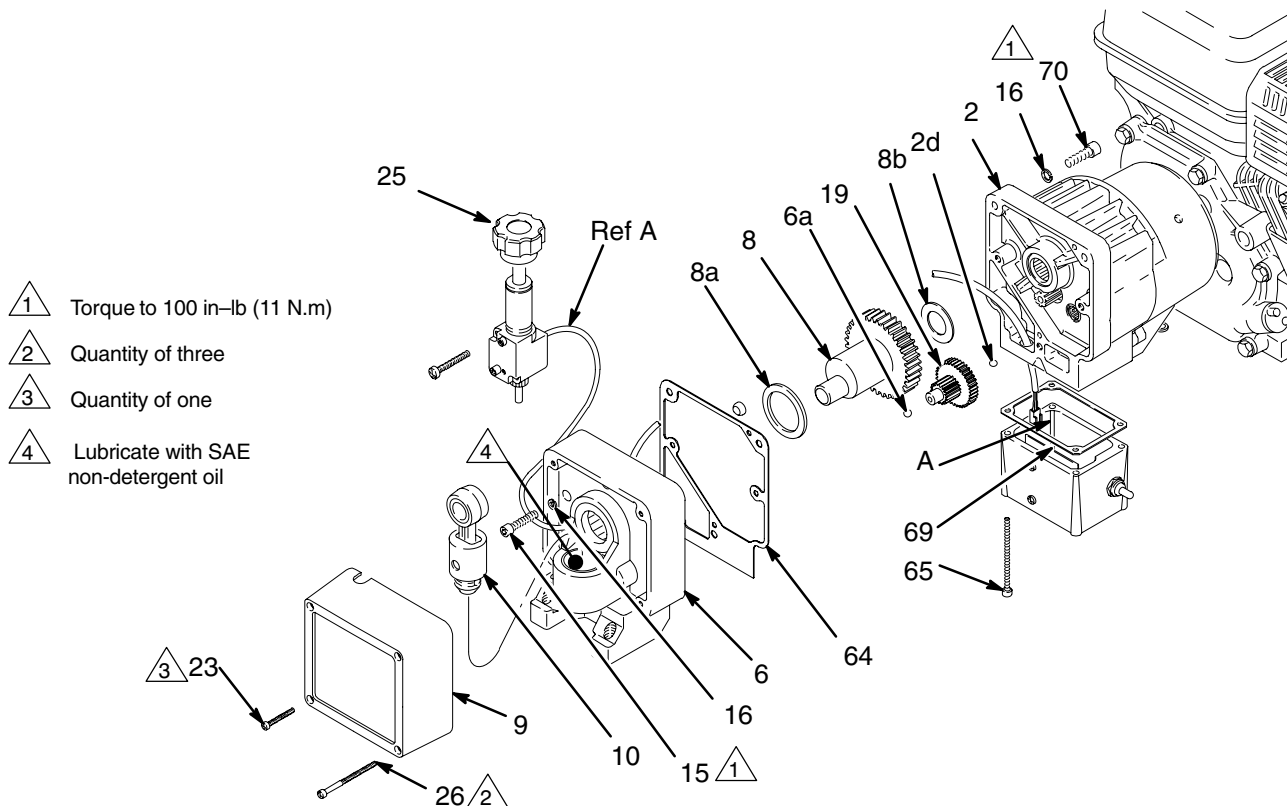

Fig. 8
2. Remove the pressure control (25). See page 23.
3. Remove the three drive housing screws and lock washers (15, 16). See Fig. 8 on page 22.
4. Remove the two pinion housing screws (69) and lock washers (16). See Fig. 8 on page 22.
5. Tap the lower rear of the drive housing (6) with a plastic mallet to loosen the drive housing. Pull the drive housing straight off the pinion housing.